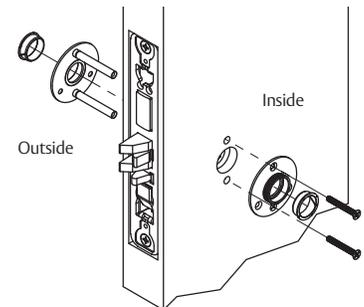

Figure 14
1. Install outside and inside adapter plates. (Figure 14)